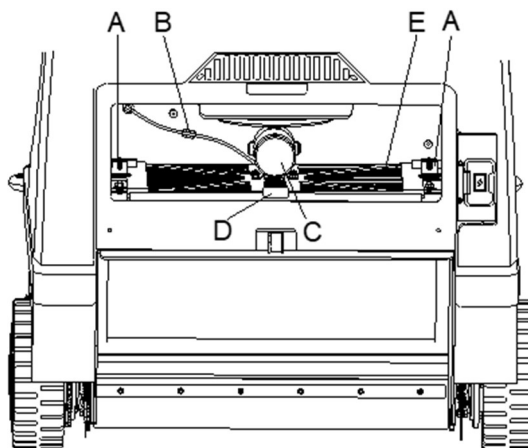
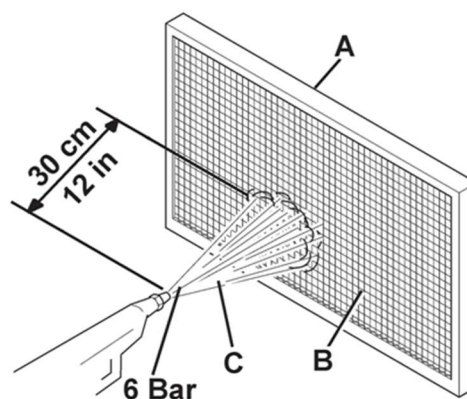

Figure 31
Figure 32
7. Unscrew the knobs (A, Figure 31).
8. Disconnect the filter shaker motor (C, Figure 31) connector (B, Figure 31).
9. Remove the dust filter fixing frame (D, Figure 31).
10. Remove the dust filter (E, Figure 31).
11. In an outdoor area, clean the filter by shaking it on a level and clean surface, tapping the side (A, Figure 32) opposite to the wire gauze (B, Figure 32). Complete the cleaning procedure by using compressed air (C, Figure 32) at a maximum of 6 bars (85 psi), blowing only from the side of the wire gauze (B, Figure 32), at a minimum distance of 30 cm. According to the filter type, observe the following cautions:
- Install the filter (E, Figure 31) with the wire gauze (B, Figure 32) facing upwards.